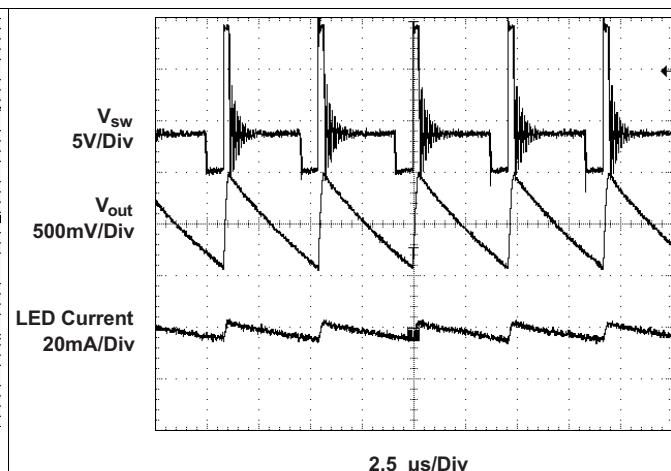
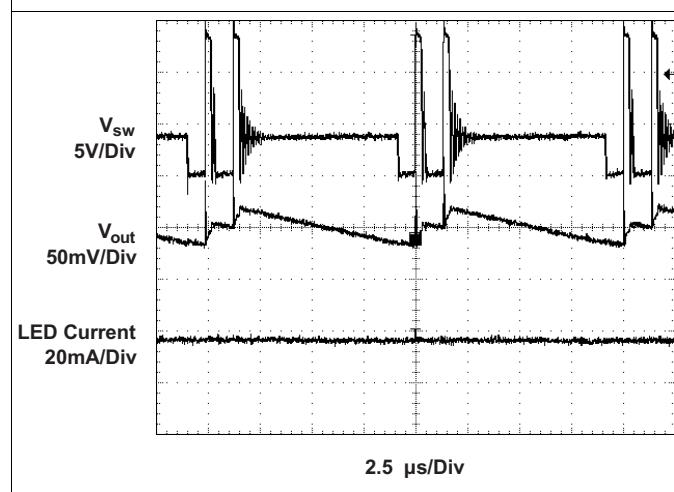

Figure 24. PFM Operation
Figure 25. Bust Mode Operation
If the converter can support the desired LED current, the next step is to calculate the converter switching frequency at the operation point, which must be ≤ 1 MHz. Also the converter switching frequency should be much higher than the applied PWM frequency at the CTRL pin to avoid non-linear brightness control. Assuming the converter shows no double pulses or pulse bursts (Figure 24, Figure 25) on the switch node (SW) the switching frequency at the operation point can be calculated as:
Assuming the converter does not show double pulses or pulse bursts on the switch node (SW), the output voltage ripple is calculated as (see Figure 24, Figure 25):